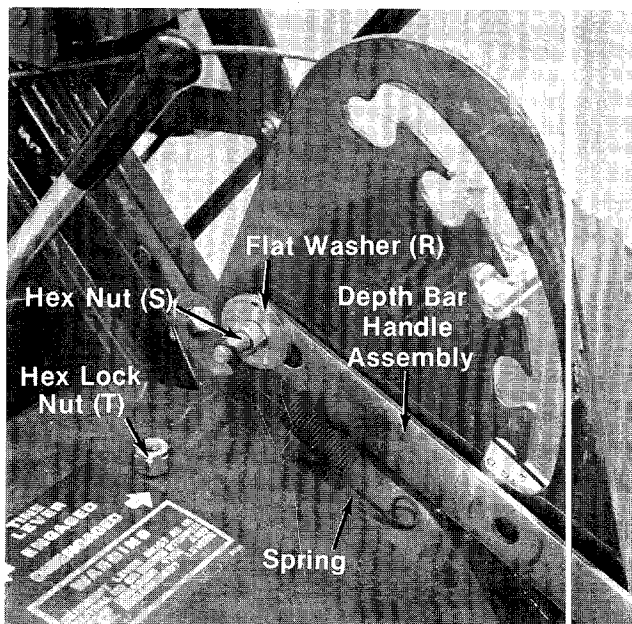

FIGURE 3.
- ← 3. Place slot in depth bar handle assembly over the spacer and hex bolt. Secure with flat washer (R) and hex nut (S), tightening securely. Place one end of spring (O) onto the bolt. Thread hex lock nut (T) on the bolt until the two nuts are approximately 1/8" apart. See figure 3.